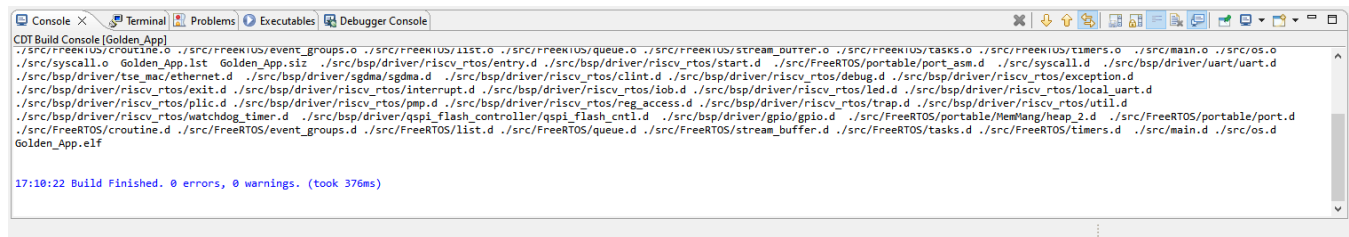

Figure A.29. Clean Complete
2. Wait for the process to complete. After completion, a message is printed in the console as shown in Figure A.29.